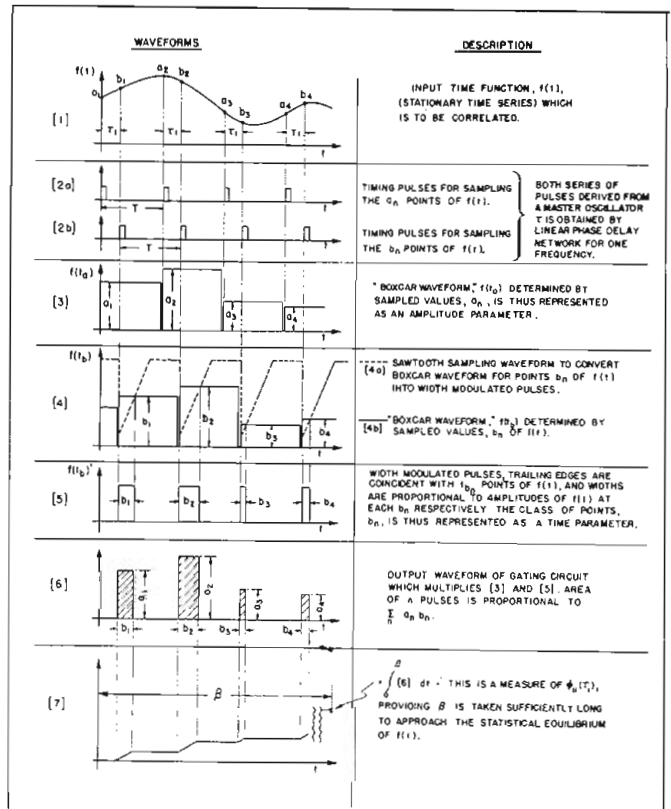

Fig. 5: Photo of the research model correlator showing its size and general structural features
Fig. 5 is a photograph of the research model correlator showing its size and general structure. Reading from top to bottom, the chassis in the eight foot rack are: (1) Stepping relay and timing circuits, (2) Channel "a", (3) multiplying, control, and integrating net works, (4) channel "b" (5) voltage and current meters, and (6) power supplies.